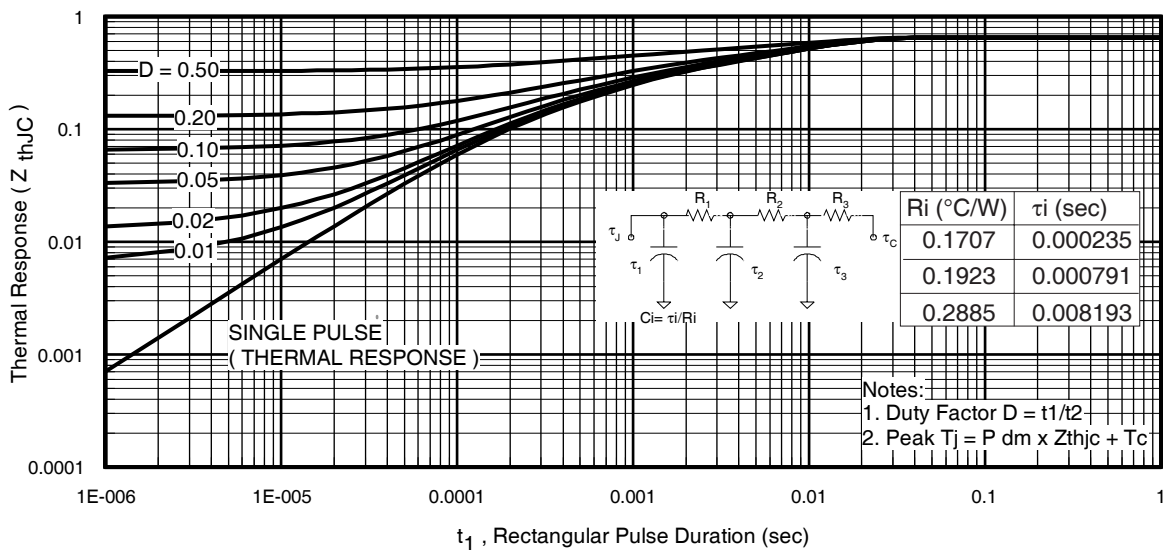

Fig 11. Maximum Effective Transient Thermal Impedance, Junction-to-Case
- ① Repetitive rating; pulse width limited by max. junction temperature. (See fig. 11).
- ② Limited by T_{Jmax} , starting $T_J = 25^\circ\text{C}$, $L = 0.064mH, R_G = 25\Omega, I_{AS} = 88A, V_{GS} = 10V$. Part not recommended for use above this value.
- ③ Pulse width $\leq 1.0ms$; duty cycle $\leq 2\%$.
- ④ $C_{oss\ eff.}$ is a fixed capacitance that gives the same charging time as C_{oss} while V_{DS} is rising from 0 to 80% V_{DSS} .
$Z_{thJC}(D, t_{av})$ = Transient thermal resistance, see figure 11)